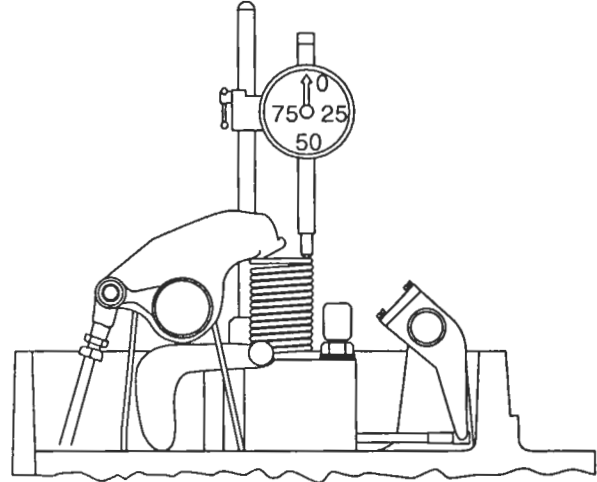

Figure 4. Checking Engine Timing by Measuring Injector Depression
17. Turn the crankshaft, in the direction of engine rotation, until the exhaust valves in the cylinder selected are completely open. Reinstall the dial indicator so the indicator spindle rests on top of the injector follower (Figure 4.) Then set the indicator on zero. Next turn the crankshaft slowly in the direction of engine rotation until the center mark on the pulley is in line with the pointer.